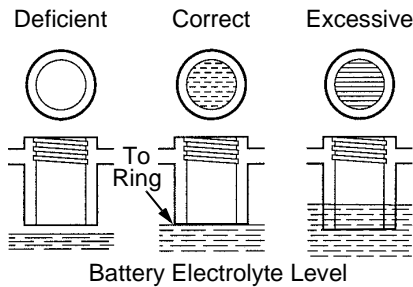

Figure 75
- Maintain the battery electrolyte level in each cell. Keep each cell filled to the bottom of the ring in each vent hole. Fill with distilled water if necessary. See Figure 75.